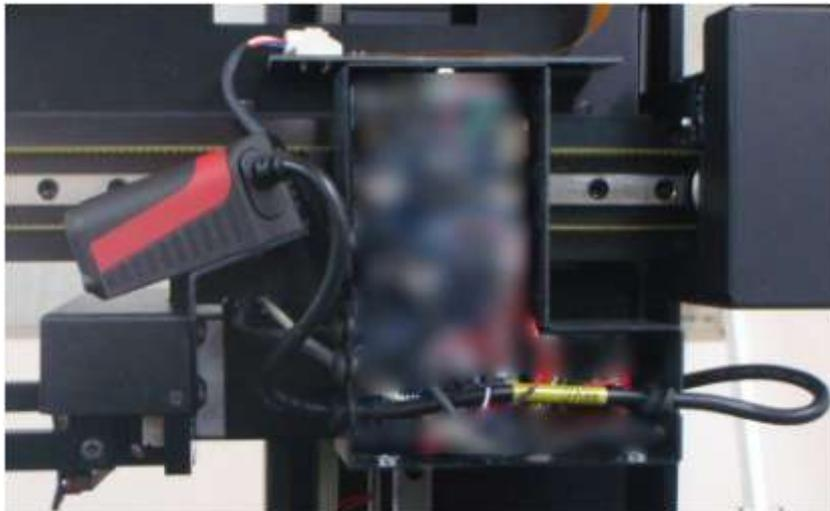

Fig: 51
- Feed the barcode reader cable through the lower of the cable sockets, through the drive box and out through the other side, see Fig 51.